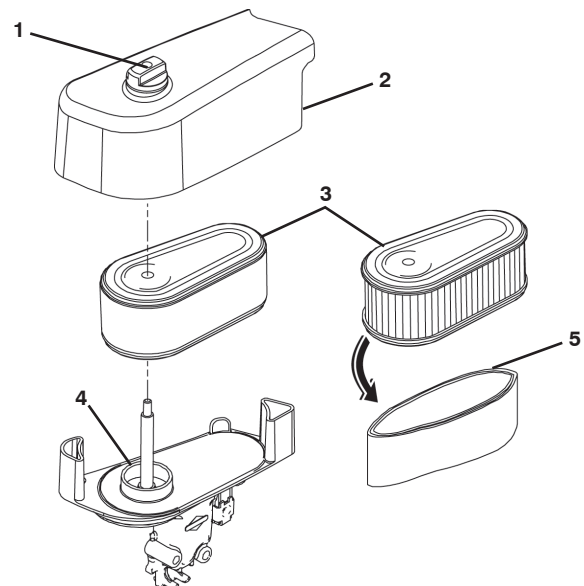

Figure 23
1. Loosen the fastener that holds the cover. Remove the cover (Figure 23).